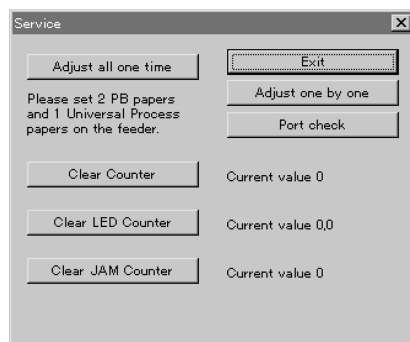

Fig. 7-8
**Note 3:** "PB paper" indicated in the Service Mode screen as shown in Fig. 7-8 refers to "standard white copy paper (262 × 305 mm)" and "Universal Process paper" refers to "standard white sheet (TKM-0316)."
- ② Select [Adjust All] in the Service mode screen, and start adjustments.